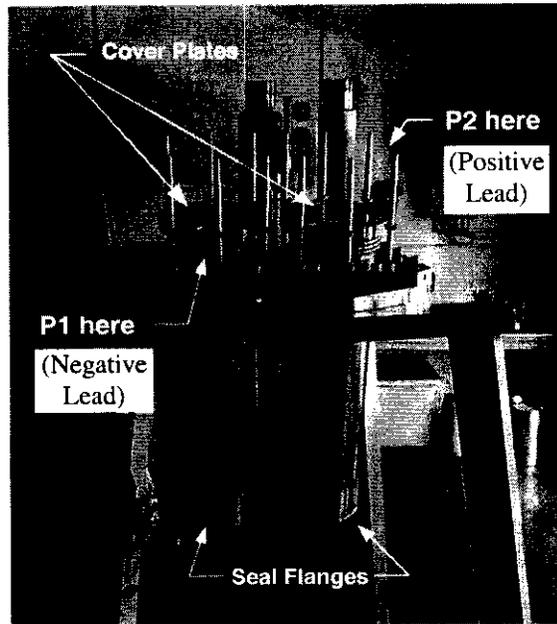
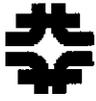

**Figure 1.21a** HTS Lead in Test Chimney. Note: CERN chimneys do not have bellows.
**Figure 1.21b** Locations of the negative and positive leads.
- 1.21 Install the lead in the chimney per Figure 1.21a until the lower sealing flange bottoms out. The flag should be toward the bayonet connections on the insert. The negative lead is installed on the left hand side, and the positive lead is installed on the right hand side as shown in Figure 1.21b.